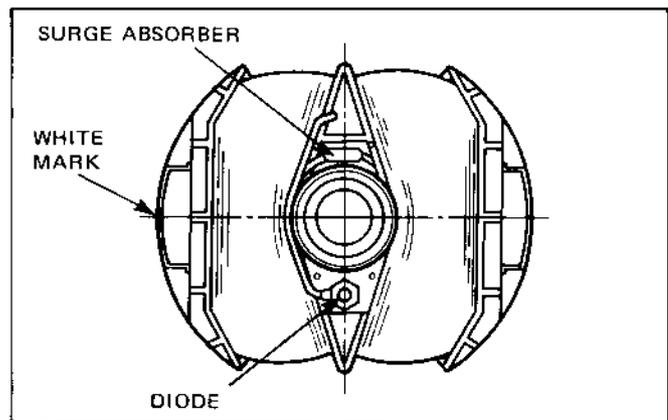

Fig. 11-6
1. As shown in Fig. 11-6, place the white mark on the magnet to the left and solder the diodes so that cathode mark is to be placed at the bottom.